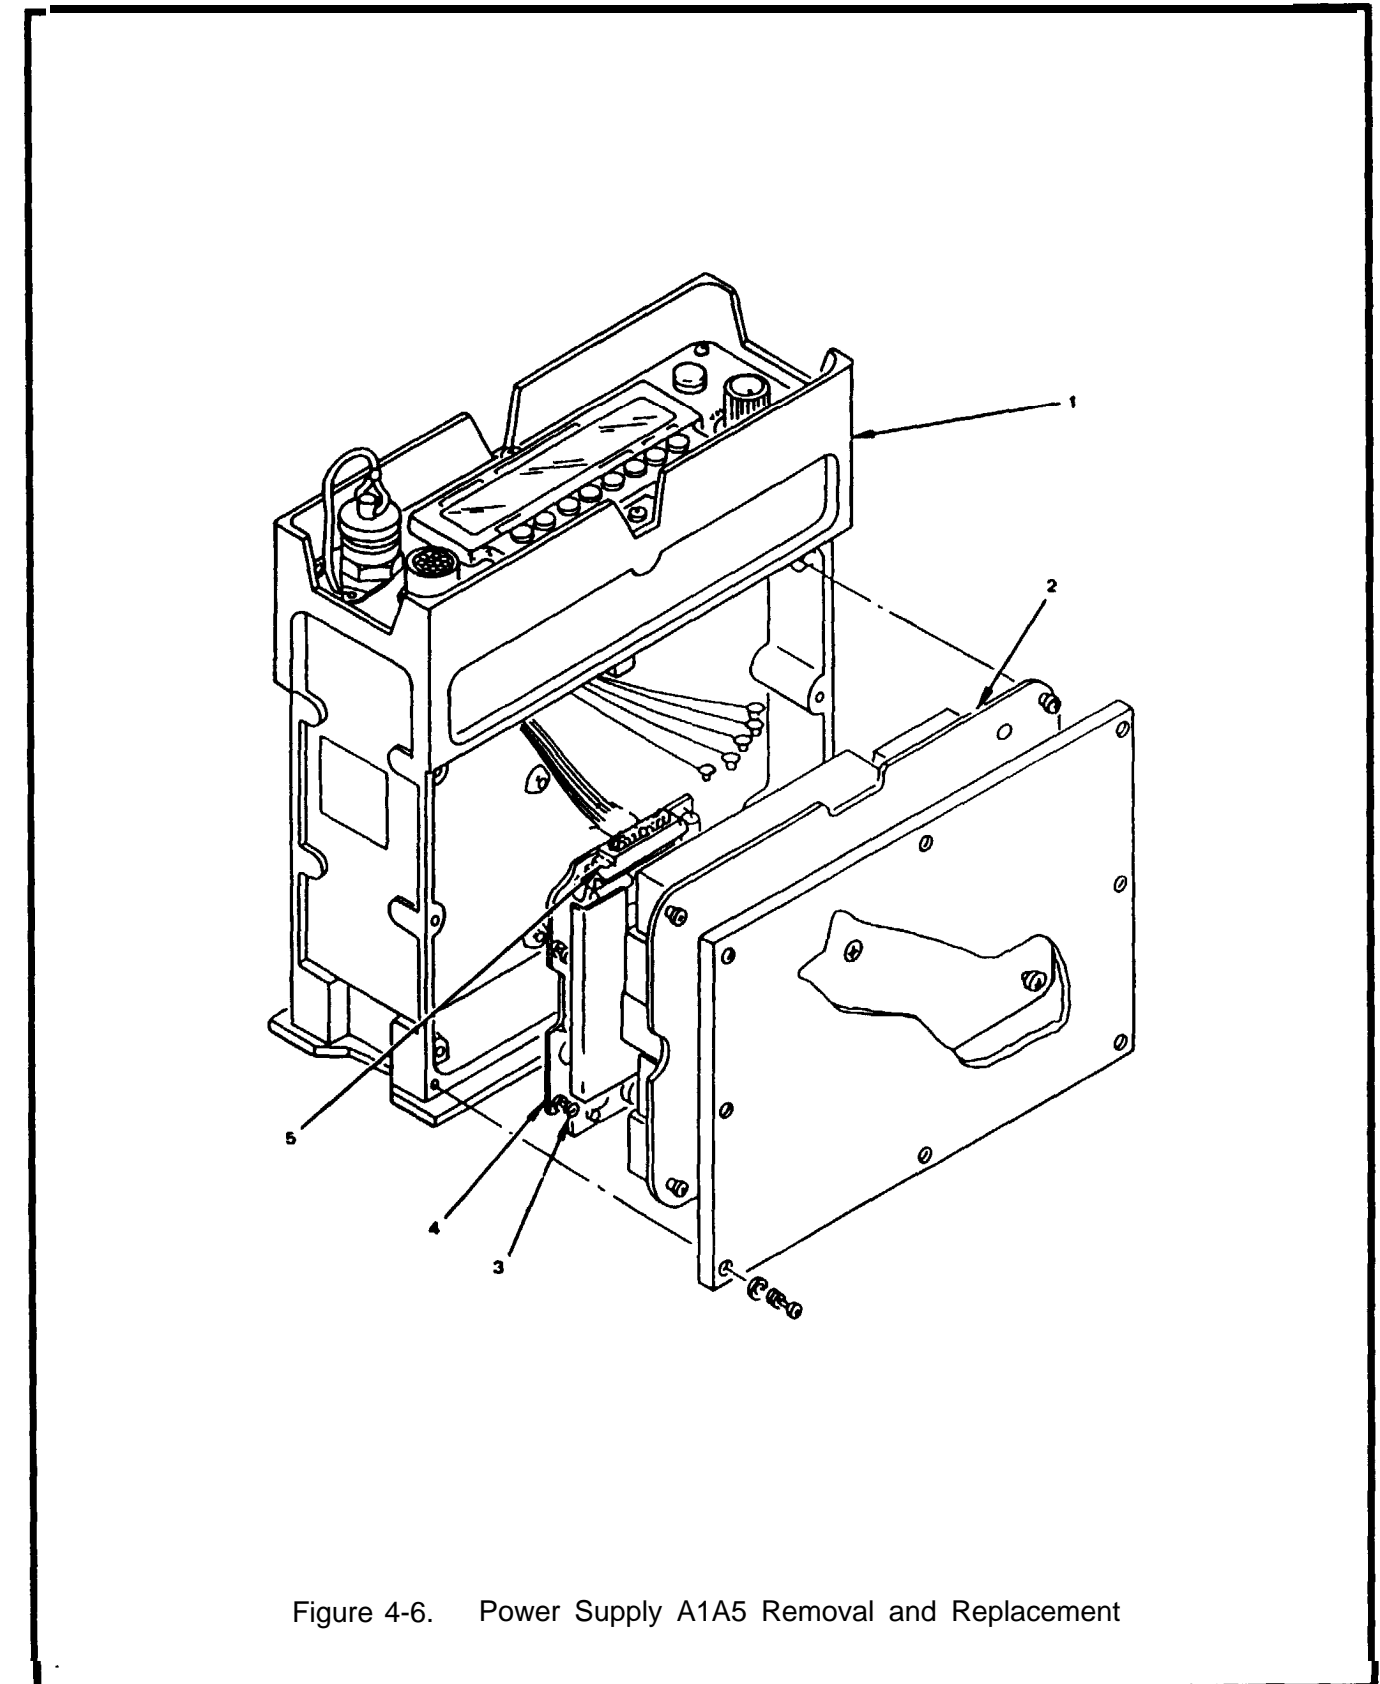

Figure 4-6. Power Supply A1A5 Removal and Replacement
**POWER SUPPLY A1A5 REMOVAL AND REPLACEMENT, fig 4-6**